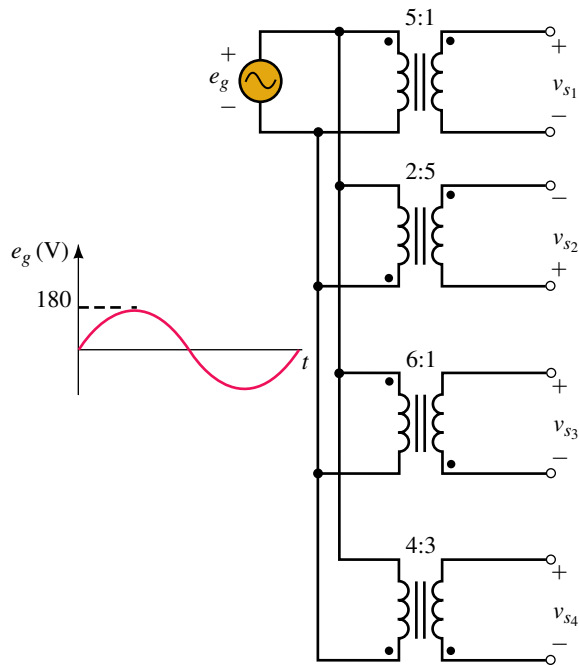

FIGURE 24-16
- For each of the transformers of Figure 24-16, sketch the secondary voltage, showing both phase and amplitude.